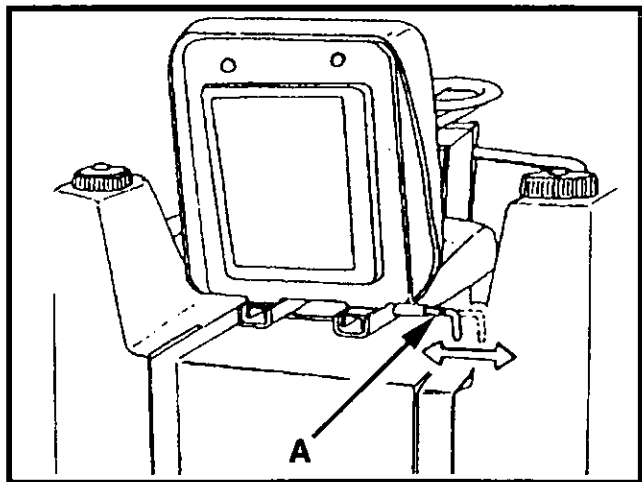

Figure 4-4 Seat Adjustment
2. Adjust the seat to a comfortable position ('A', Figure 4-4).